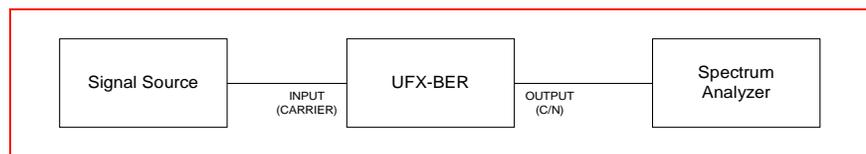

Figure A-2. Noise Flatness Measurement Setup
- Disconnect the RMS power meter and connect the spectrum analyzer to the UFX-BER output, as in Figure A-2.